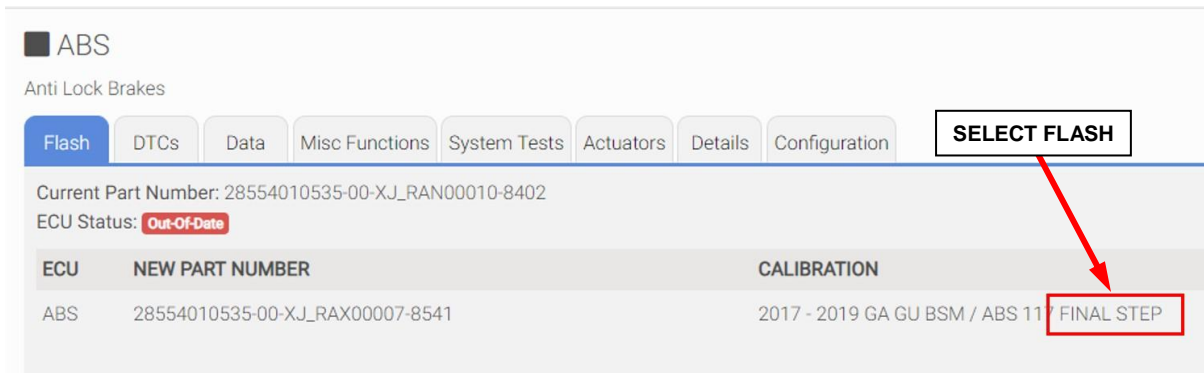

Figure 15 – Flash ABS / BSM “FINAL STEP”
11. From the ABS flash tab, select the ABS flash “**FINAL STEP**” and proceed with the reprogramming procedure (Figure 15).